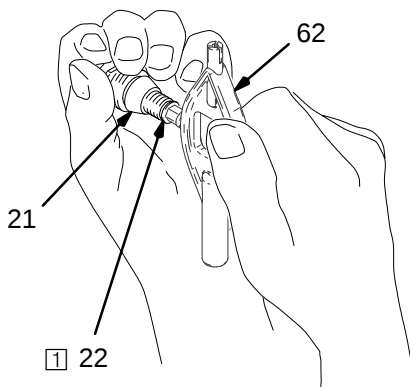

Fig. 12
3. Unscrew and remove the resistor stud (22) with the multi-tool (62). See Fig. 12.